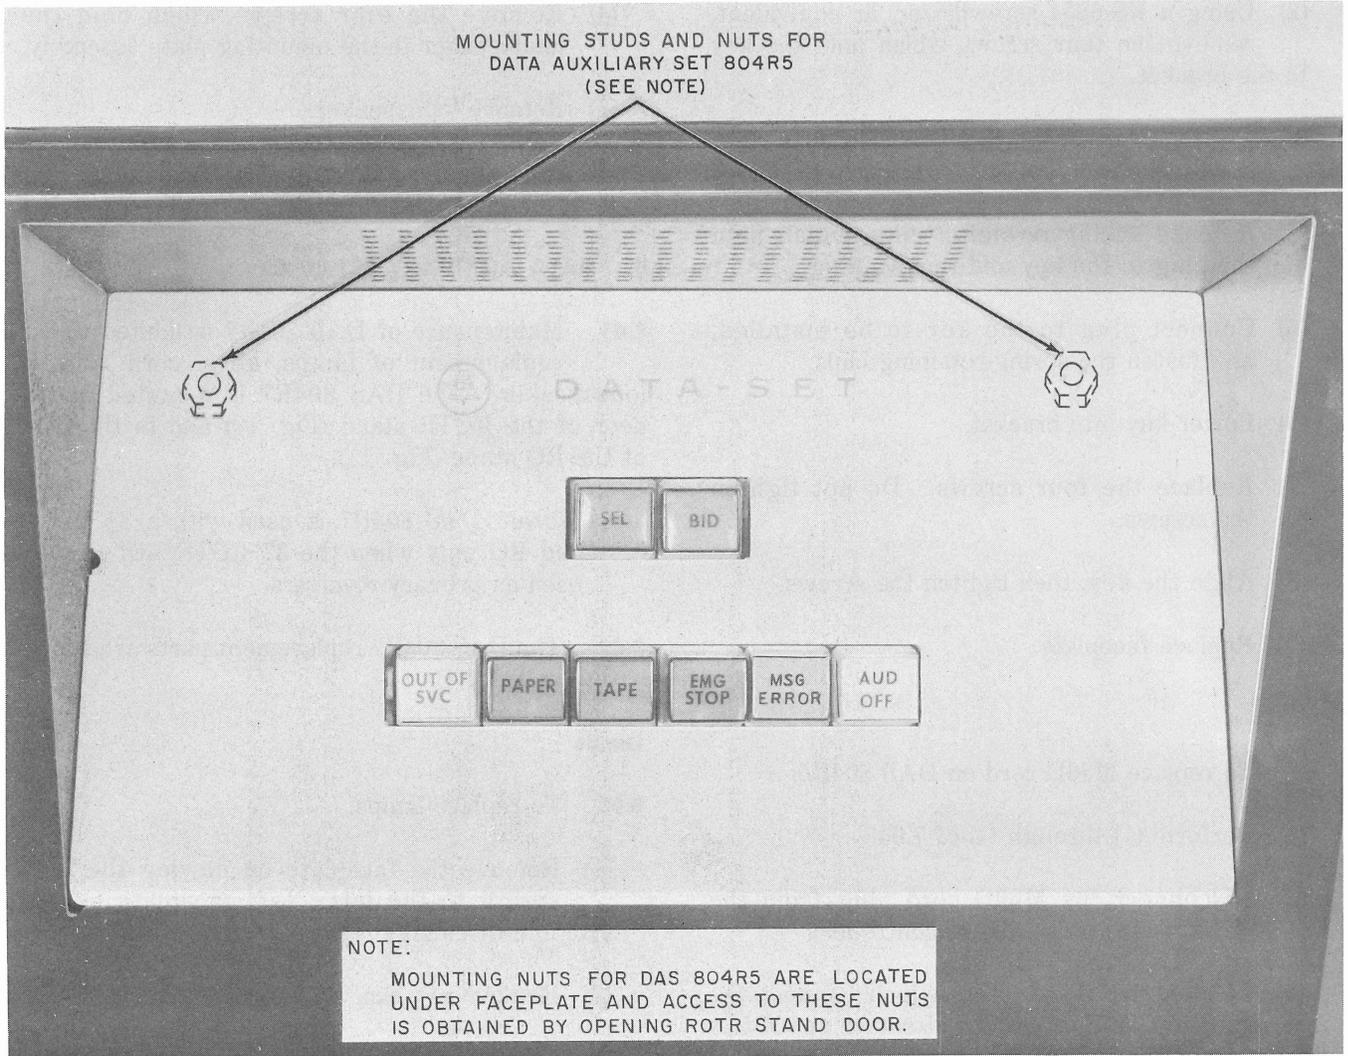

Fig. 9—DAS 804R5 Mounted in the Door of a 37 ASR TTY
7.01 Maintenance of DAS 804R5 is limited to the replacement of lamps, keys, cord, and/or loudspeaker. The DAS 804R5 is mounted in the door of the ASR TTY. (See Fig. 9.)